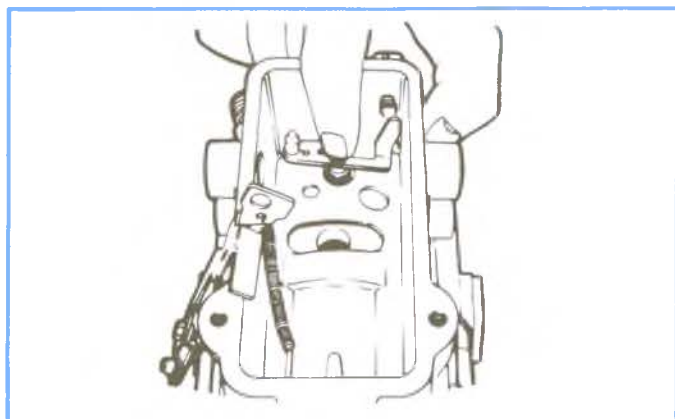

Figure 7-8
- Check metering valve for freedom of rotational movement (Figure 7-8).